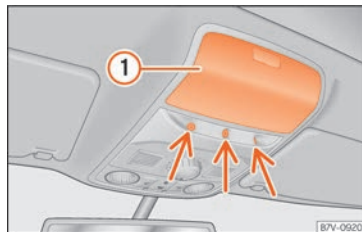

Fig. 93 On the roof console: passenger compartment monitoring sensors.
- Close the storage compartment »» Fig. 93 ① on the roof console, otherwise the interior monitoring function (arrow) is not guaranteed to work freely.